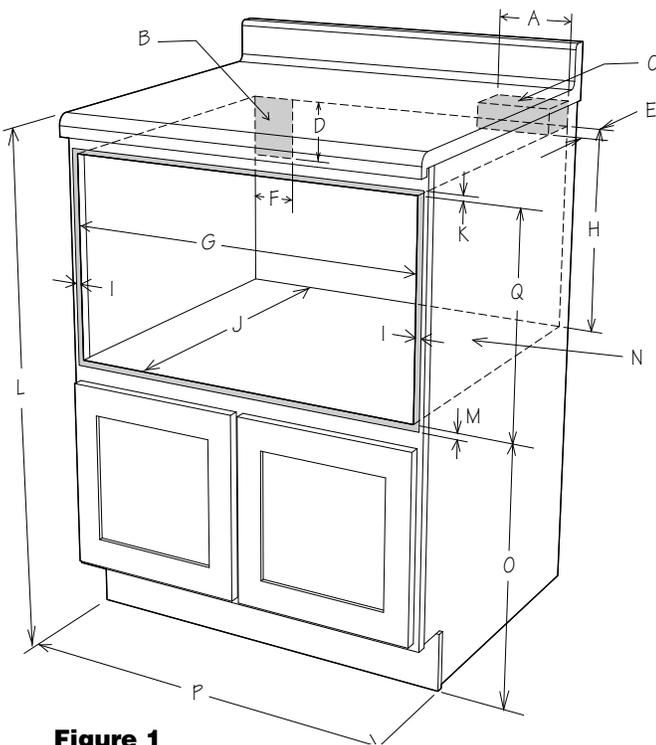

Figure 1
For SAFETY CONSIDERATIONS do not install drawer in any combustible cabinetry, which is not in accord with the stated clearances and dimensions on pages 2 and 3. See Figure 1 (for 24") or Figures 3 and 4 (for 30").
- Dimensions that are shown in Figure 1 (for 24") or Figures 3 and 4 (for 30") must be used. Given dimensions provide minimum clearance. Locate electrical outlet in the shaded area in the upper left-hand corner of the cutout. See Figure 7.
Figures 1 and 2 contain many Microwave Drawer measurements for reference when planning the drawer's location.
To reduce the risk of tipping of the drawer, the Anti-Tip block must be properly installed located 14 13/16-inches above the floor on which the Microwave Drawer will sit. The 6-inch Anti-Tip block must be provided by the installer. See Figures 1 and 6 (for 24") or Figures 3, 4 and 6 (for 30"). The Anti-Tip block prevents serious injury that might result from spilled hot liquids.